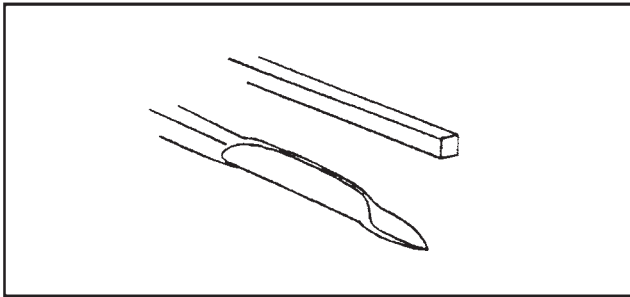

Figure 23.8 The mainspring is made by forging the keystock into a thin, leaf shape.
16. The mainspring is forged from a 6- to 8-inch piece of $\frac{5}{16}$ -inch square keystock. Forge one end of the bar into a thin, leaf shape as shown in Fig. 23.8.